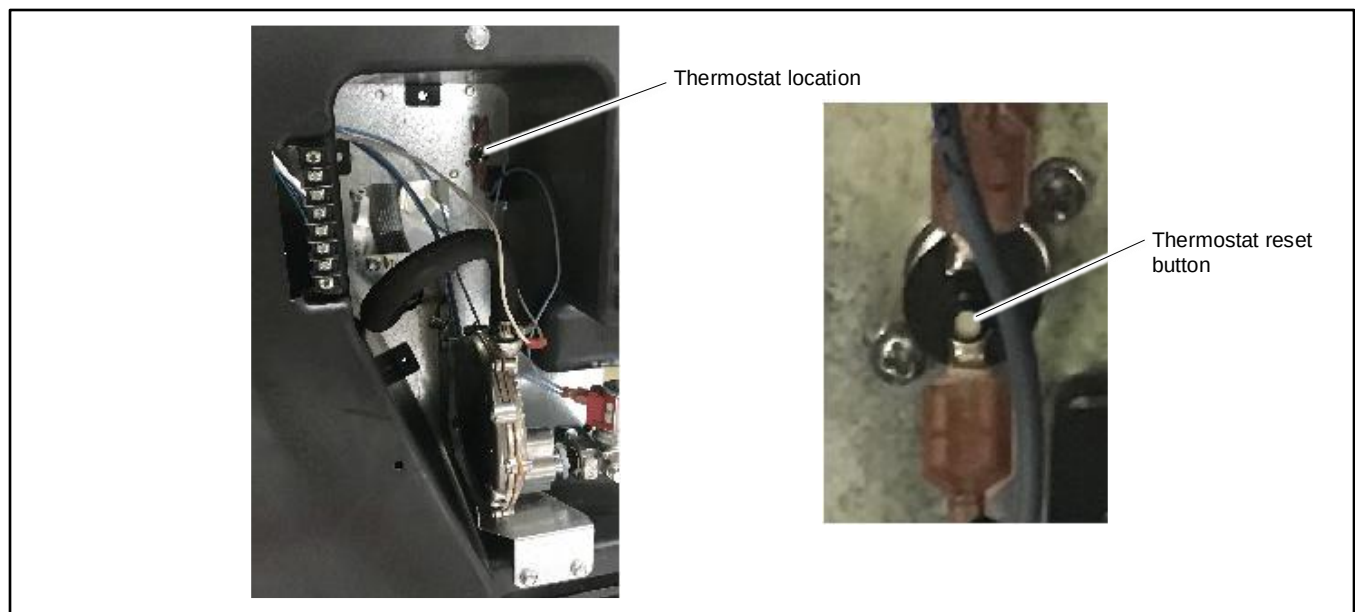

Figure 68 Thermostat
The generator sets include a resettable thermostat. See Figure 68 for the thermostat location in the air intake area, near the fuel system. The thermostat detects excess heat inside the enclosure. If the thermostat trips, the generator will shut down and the controller will display a fault (underspeed, underfrequency, or undervoltage). Check for blocked air inlets and exhaust outlets. Then follow these steps to reset the thermostat.
3. Remove the air intake panel. See Figure 68.